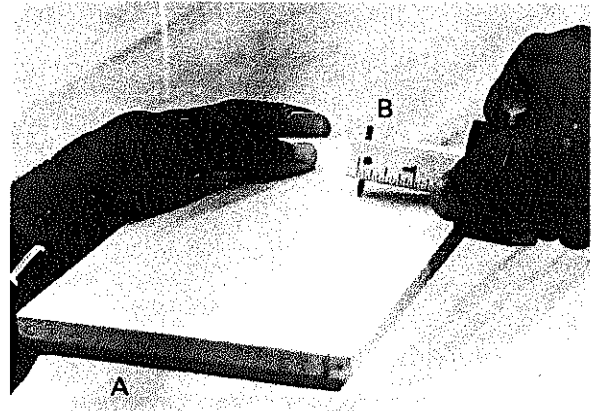

Fig. 4-7 Marking a short line
6. To gauge a short board, as shown in figure 4-7, hold the gauge with the thumbscrew pointed toward end B. Start at end A. Work down the length of the board until the head of the gauge comes near end B.